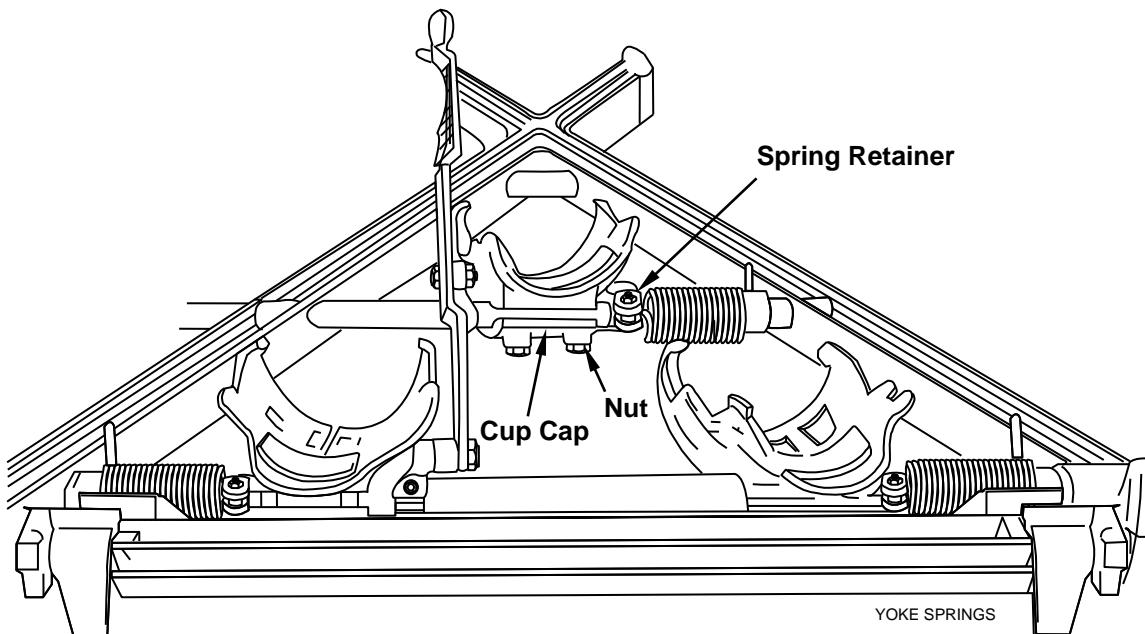

Figure 4.2-16
1. With the table in the home position, loosen the spring retainer's locking nut slightly and tap the spring retainer on the yoke shaft so that the spring end is in line with the top of the nuts on the spotting cup cap (see Figure 4.2-16). This is the initial (approximate) setting.